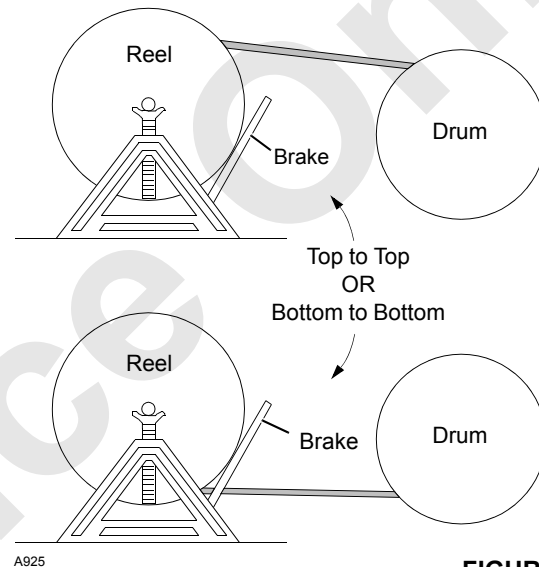

FIGURE 4-34
- b. Provide a brake at the reel (see Figure 4-34) so the wire rope can be wound tightly onto drum.
- c. Avoid a reverse bend when winding wire rope onto the drum: wind from the top of reel to the top of drum or from the bottom of the reel to the bottom of the drum as shown in Figure 4-34.